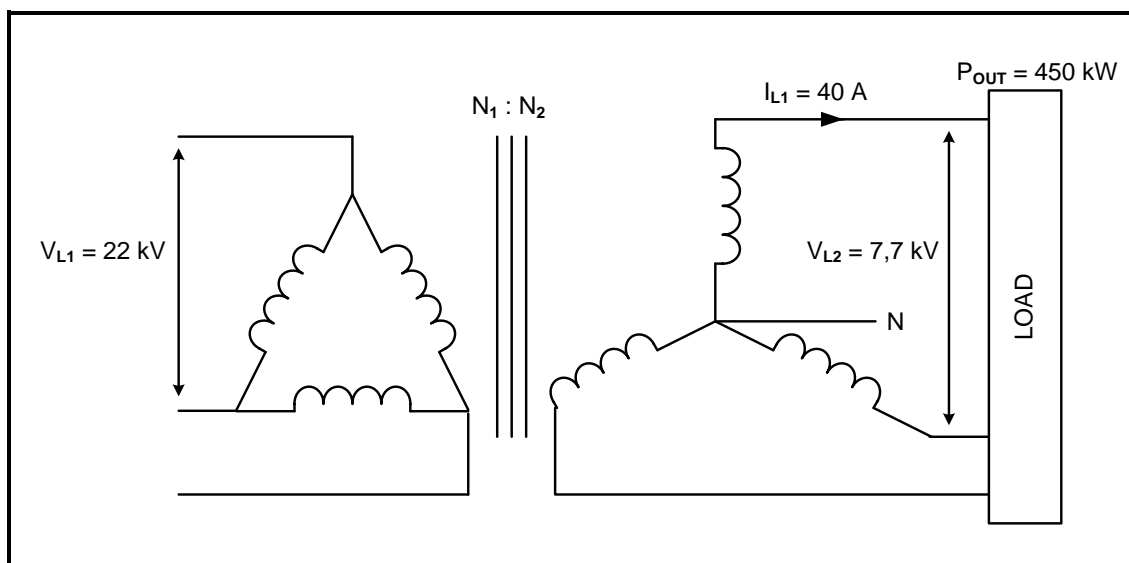

FIGURE 5.3: THREE-PHASE TRANSFORMER
5.3 FIGURE 5.3 below shows a three-phase transformer. Answer the questions that follow.
5.3.1 Identify the configuration of the three-phase transformer in FIGURE 5.3. (1)